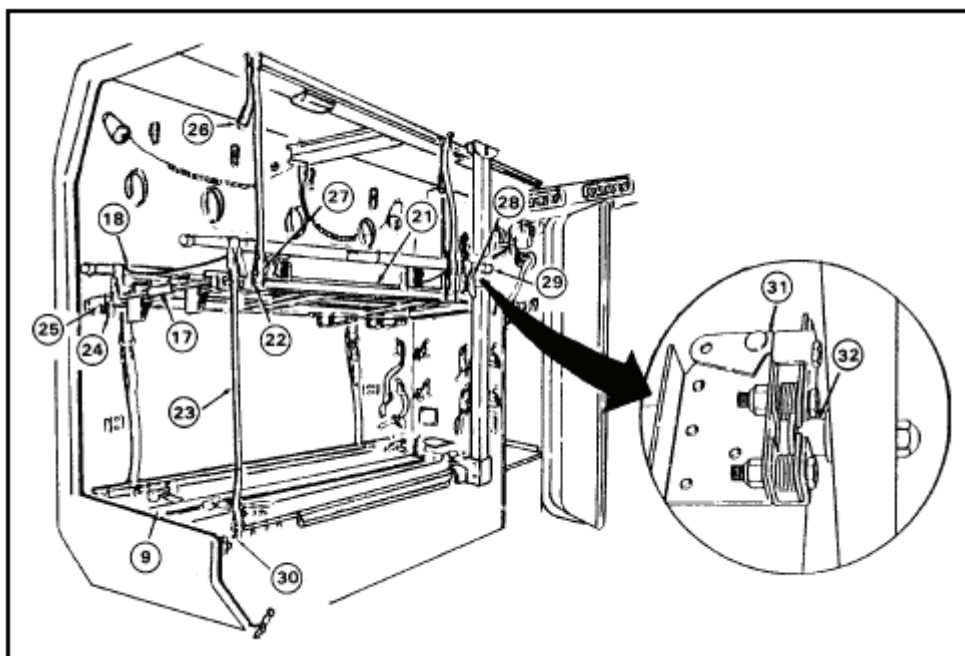

Figure 3-52. Unload litters from upper litter racks.
- (2) Secure both rails (6) of litter rail extension (4) into slots (10) on lower litter rack (9).
- (3) Slide litter (7) from lower litter rack (9) onto litter rail extension (4).
- (4) Lift up and remove litter (7) from litter rail extension (4).
- d. Unload litters from upper litter racks. Refer to Figures 3-52 and 3-53.